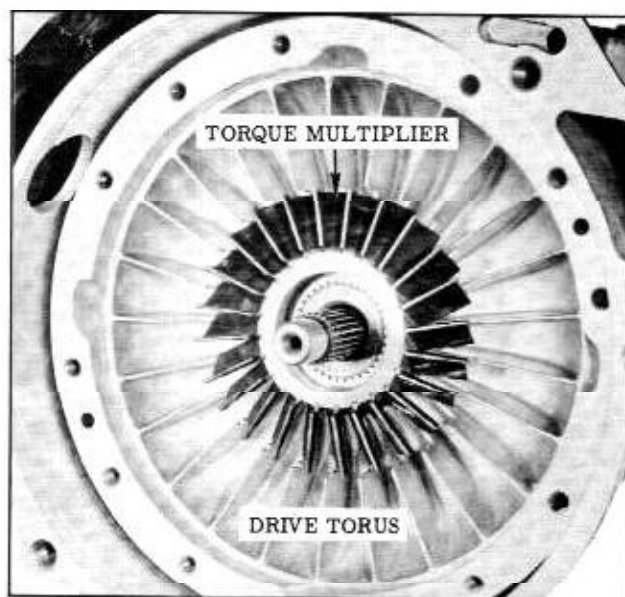

Figure 3-43 Drive Torus and Torque Multiplier
13. From the front of the transmission, remove the drive torus member and torque multiplier as a unit. (Fig. 3-43)